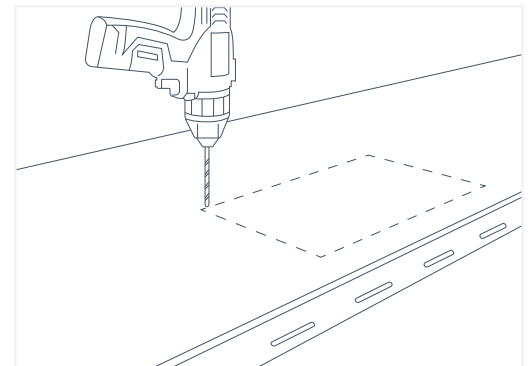

Fig. 2
3. Drill a 1/2" hole in the corner of the required opening (Fig. 2).